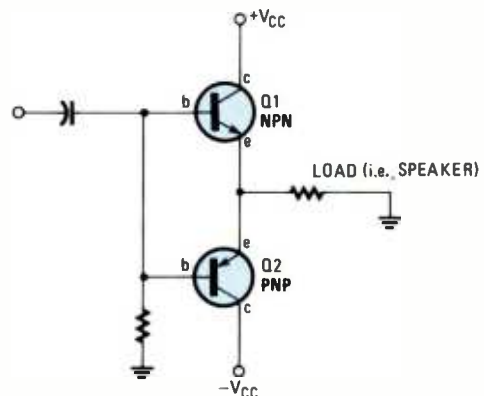

Fig. 23—A complementary-symmetry class B push-pull power amplifier can eliminate the output transformer.
57. (power) A more widely used transistor class B power amplifier is shown in Fig. 23. It uses no transformers: a major savings in size, weight, and cost. It is made up of both NPN (Q1) and PNP (Q2) transistors connected as emitter followers, with the load (a speaker, motor, etc.) acting as the emitter resistor. Such a circuit is called a *complementary-symmetry amplifier*. (PNP and NPN transistors are said to be complementary devices.) Note that two power supply voltages, $+V_{cc}$ and $-V_{cc}$, are